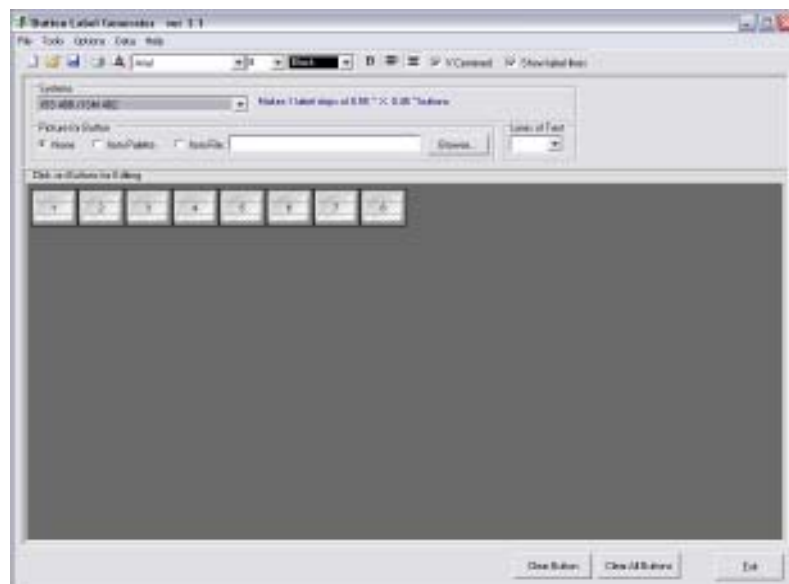

Figure 5-7 — Extron’s Button-Label Generator window
1. To run the Button-Label Generator program, click **Start > Programs > Extron Electronics > Button-Label Generator**. Extron’s Button-Label Generator window appears (figure 5-7).